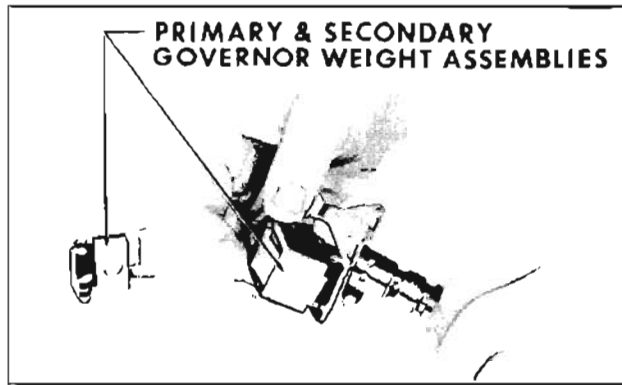

Fig. 6-375 Removing Weights
4. Remove both sets of primary and secondary governor weight assemblies. Separate primary and secondary weights, governor weight spring will fall free. (Fig. 6-375)